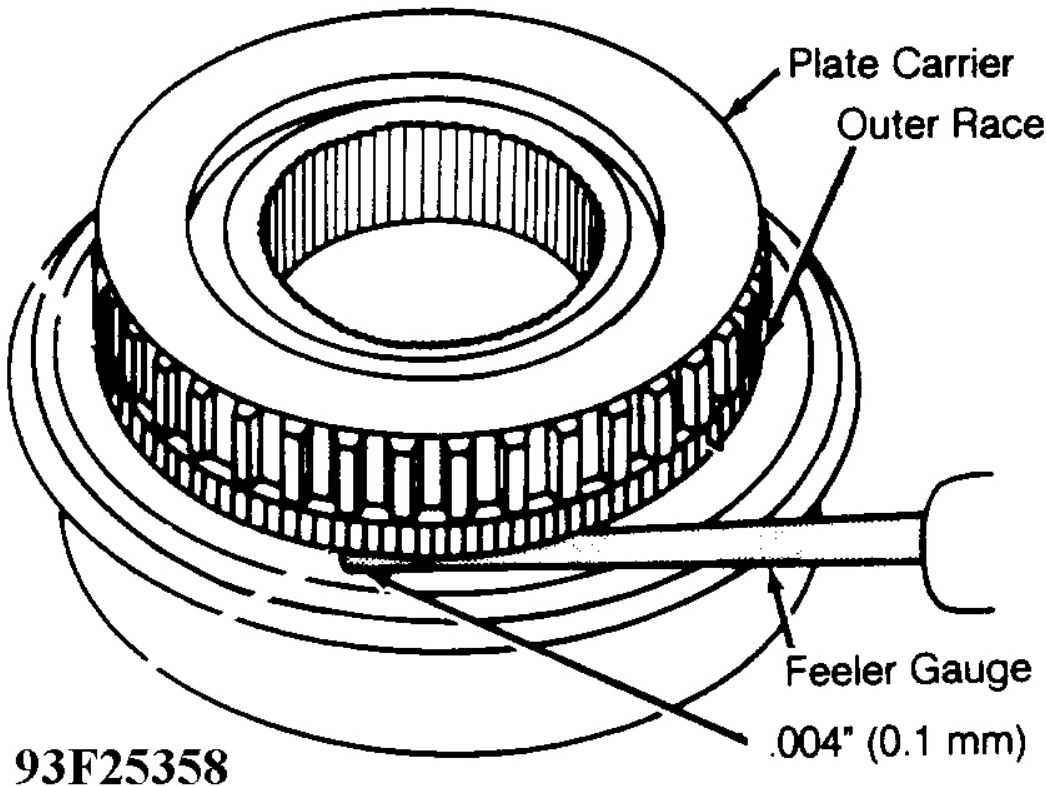

Fig. 19: Checking One-Way Clutch Clearance
2. Use plate carrier to rotate one-way clutch outer race clockwise and install outer race on the inner race. Using feeler gauge, measure one-way clutch clearance between outer race on inner race. One-way clutch clearance should be at least .004" (.10 mm). See **Fig. 19** .